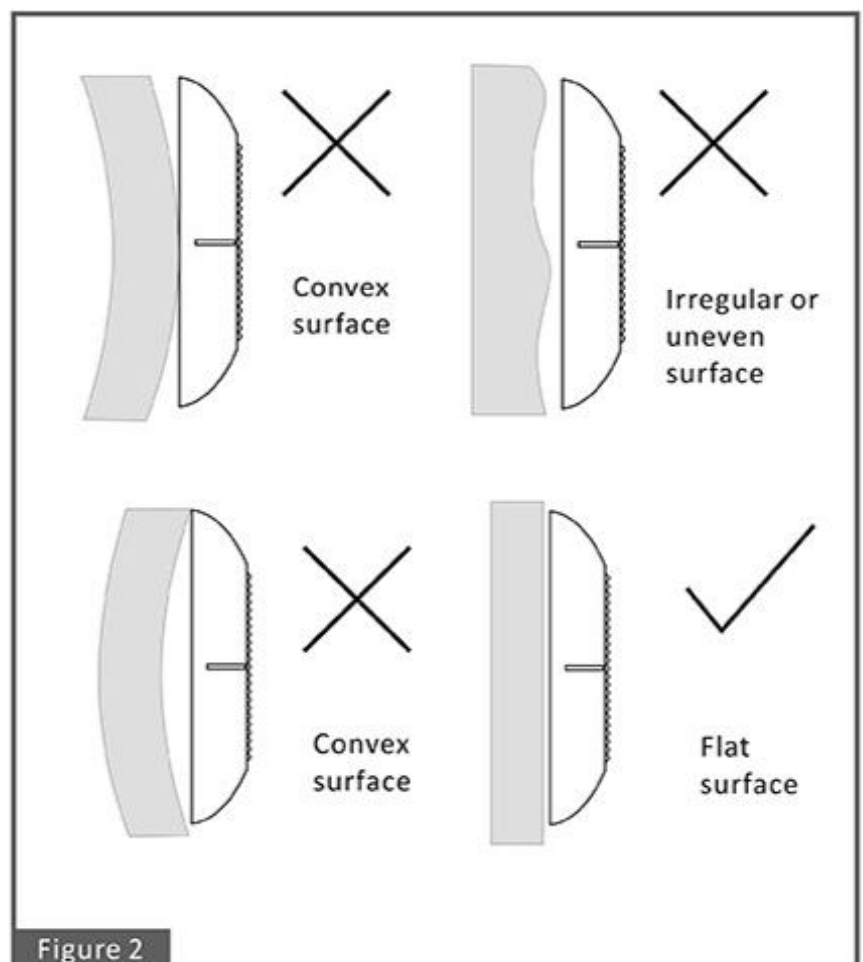

Figure 2
3. Mounting spacer MUST be flat with the face of mounting spacer, this ensures a snug fit between the light and wall (Fig 2)